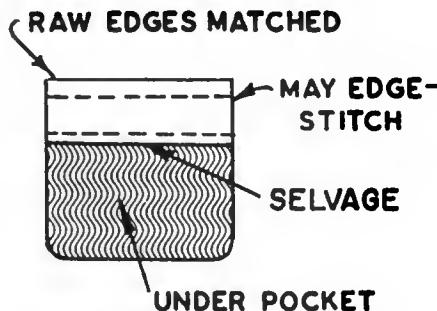

Fig. 141. The under-pocket pouch.
- A. Place the facing strip on one end of the pouch with the right sides of both up, matching the raw edges. The wrong side of the facing is against the right side of the pouch (Fig. 141).
- B. Stitch along the selvage (Fig. 141).